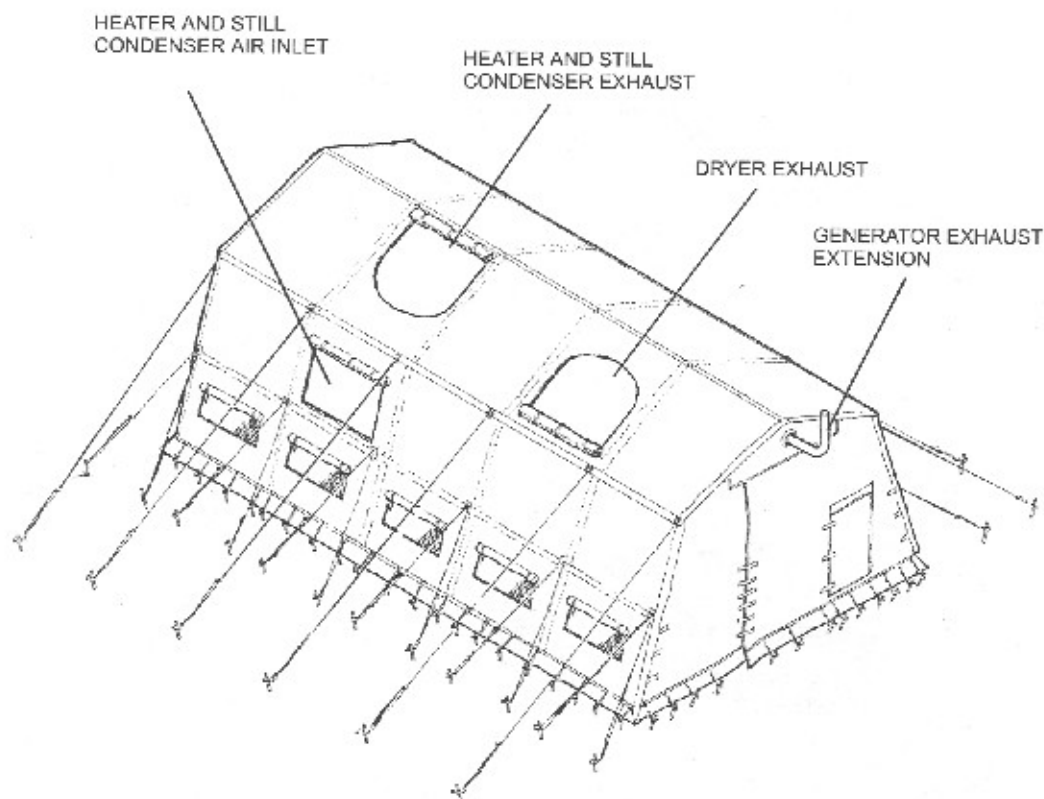

Figure 3-37
- b. It is recommended that the LADS water supply be kept inside the LME during cold weather operation. For operation and maintenance of the LME refer to TM 10-5410-284-13&P. (See Figure 3-37)